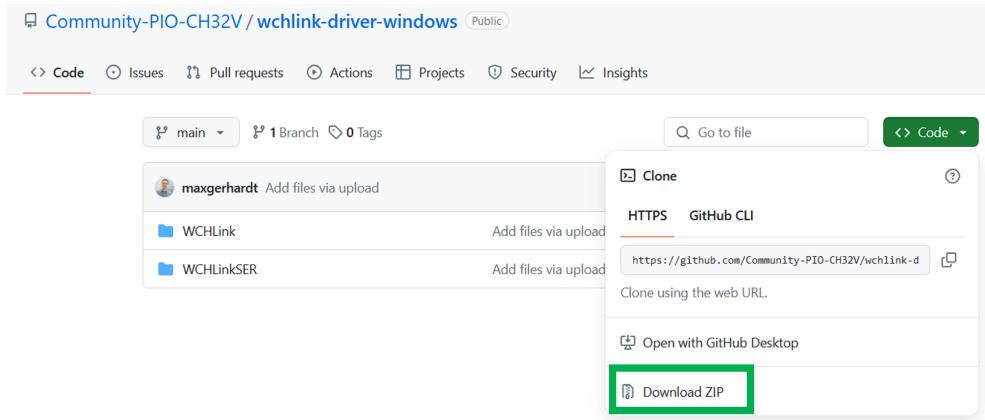

Figure 8: WCHLink Driver Windows
- Click on the "Download Zip" button as shown in below Figure 8